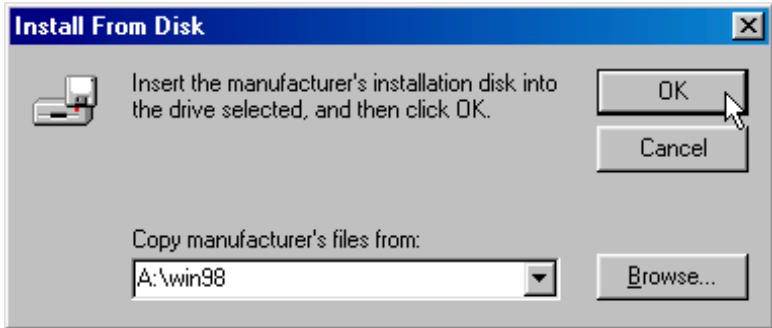

Figure 29. Install from Disk
- 3 The **Install from Disk** (Figure 29) dialog appears. Insert the 3ware driver installation diskette and type, for either Windows 98 or Me, A:\win98 in **Copy manufacturer's files from:** at the bottom of the box.